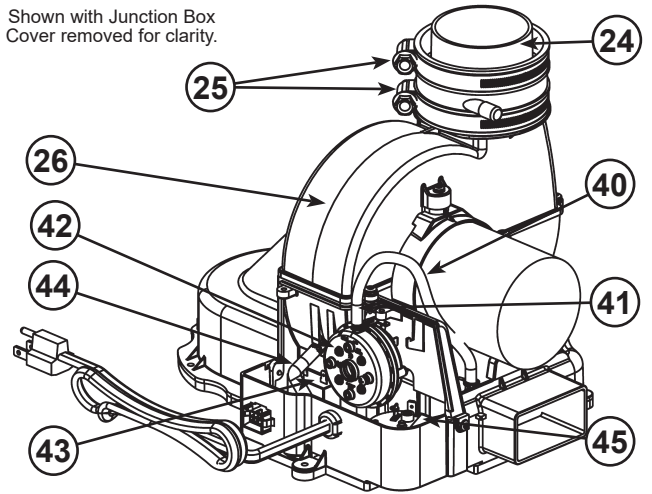

Figure 57.
- 24 \*\*\*Rubber Coupling (see Figure 4) (see also Figure 57)
- 25 Gear Clamp (see Figure 4) (see also Figure 57)
- 26 \*\*Blower with Power Cord (see Figure 4) (see also Figure 57)
- 40 Air Tubing (Intake) (see Figure 4) (see also Figure 57)
- 41 Blower High Limit Switch (see Figure 4) (see also Figure 57)
- 42 Intake Air Pressure Switch (NC) (inside box) (see Figure 4) (see also Figure 57)
- 43 Capacitor (see Figure 4) (see also Figure 57)
- 44 Air Tubing (Exhaust) (see Figure 4) (see also Figure 57)
- 45 Exhaust Air Pressure Switch (NO) (inside box) (see Figure 4) (see also Figure 57)